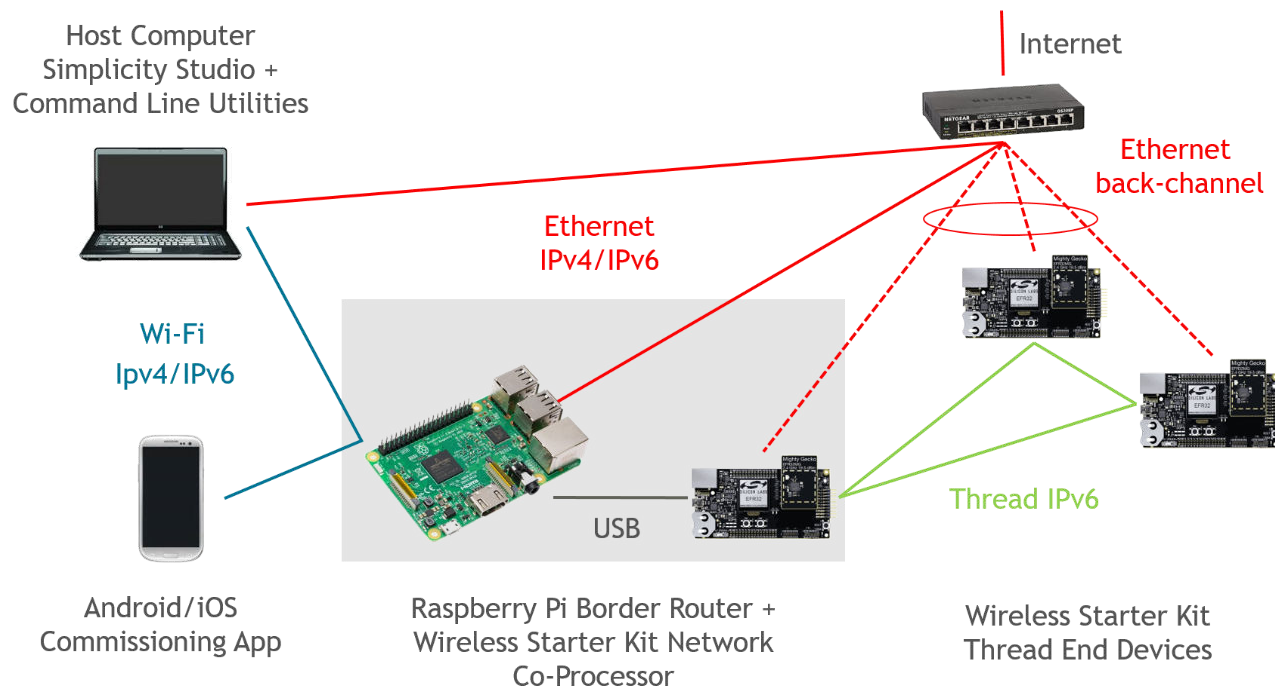

Figure 1.1. Thread System Components
1. Connect each wireless starter kit mainboard and the host computer to an Ethernet switch with an Ethernet cable as shown in Figure 1.1 Thread System Components on page 3. These connections will permit programming and network analysis of the NCP and end devices. Optionally, end devices may be connected to the host computer by USB rather than Ethernet.
Note that it may be desirable to use an Ethernet switch as shown in Figure 1.1 Thread System Components on page 3, however, it is not necessary that the Raspberry Pi be on the same Ethernet network as the host computer and Wireless Starter Kit mainboards.
3. Connect one of the Wireless Starter Kit mainboards to the Raspberry Pi with a USB cable. This will become the network co-processor as shown in Figure 1.1 Thread System Components on page 3.